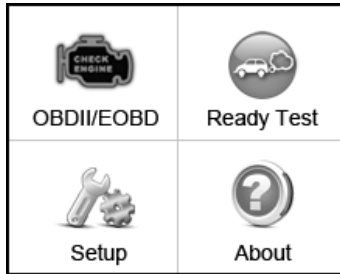

Figure 3.1
When the code reader is powered on, it displays a **Main Screen**. (Figure 3.1)
- 1) From **Main Screen**, use the **SCROLL** button to select **About** and press the **ENTER/Exit** button; wait for the **About** screen to appear. (Figure 3.1)